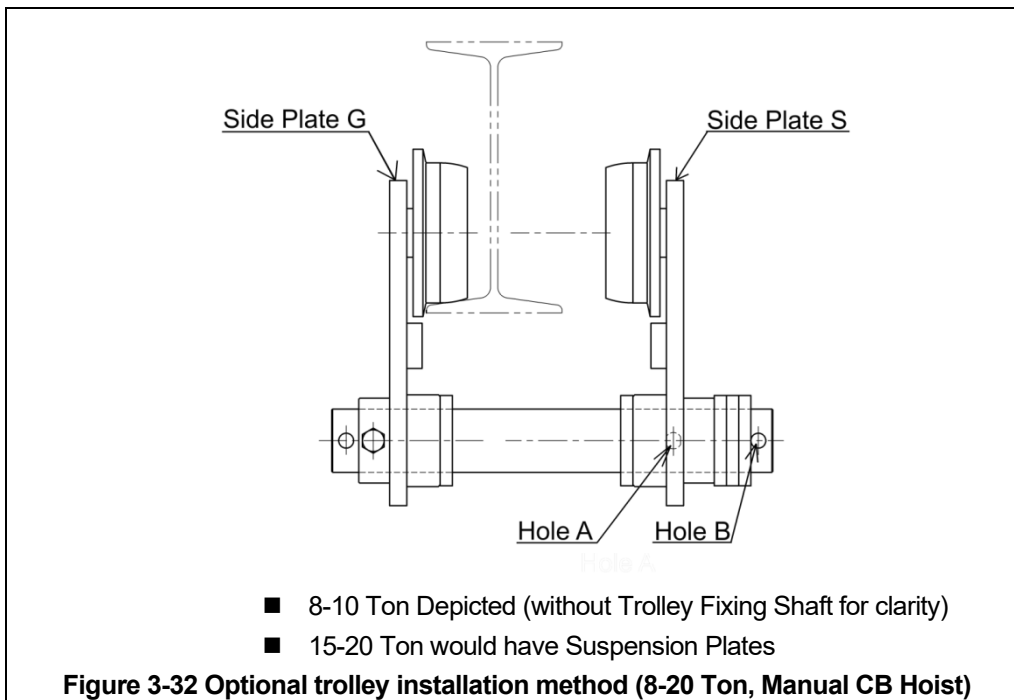

**Figure 3-31** Optional trolley installation method (1/2-5 Ton)
- 2) Remove the Shaft Stopper Pin from Suspension Shaft (See **Figure 3-31**).